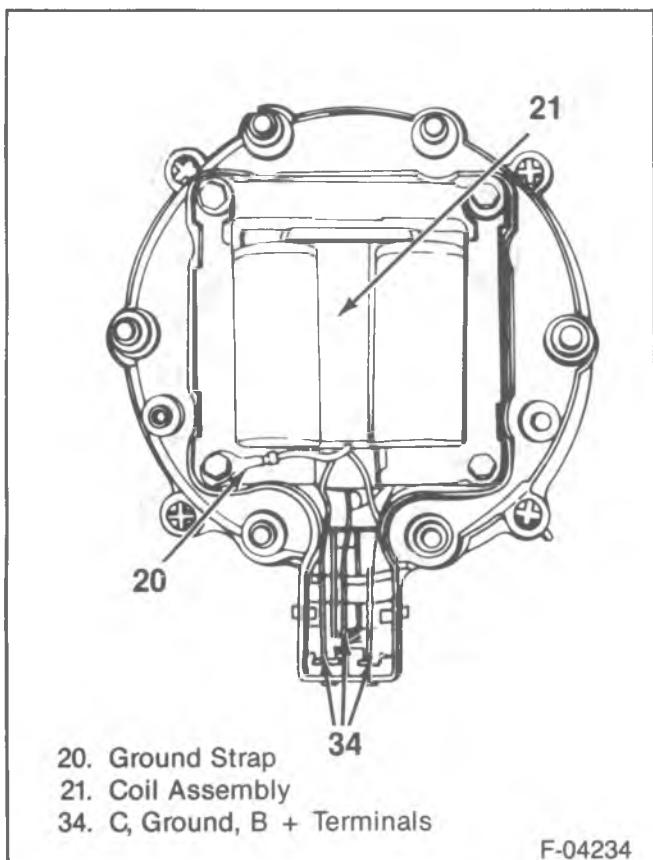

Figure 45—Ignition Coil
3. Cover attaching bolts (32) and the cover (19) from the cap (23).
4. Four attaching bolts from the coil (21).
5. Coil wires from the connector housing with needle nose pliers (figure 45).
7. Arc seal (22) and the ground wire (20) from the cap (23).
2. Coil (21) and wiring into the cap (figure 45).
4. Cover (19) to the cap (23) with two bolts.